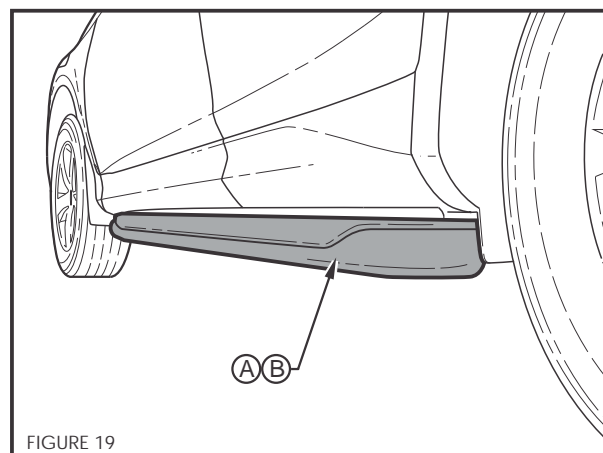

FIGURE 19
- Adjust step to vehicle doors ensuring that a minimum gap condition of 10mm is maintained between the step and the doors. Ensure the step is level as shown in Figure 19.